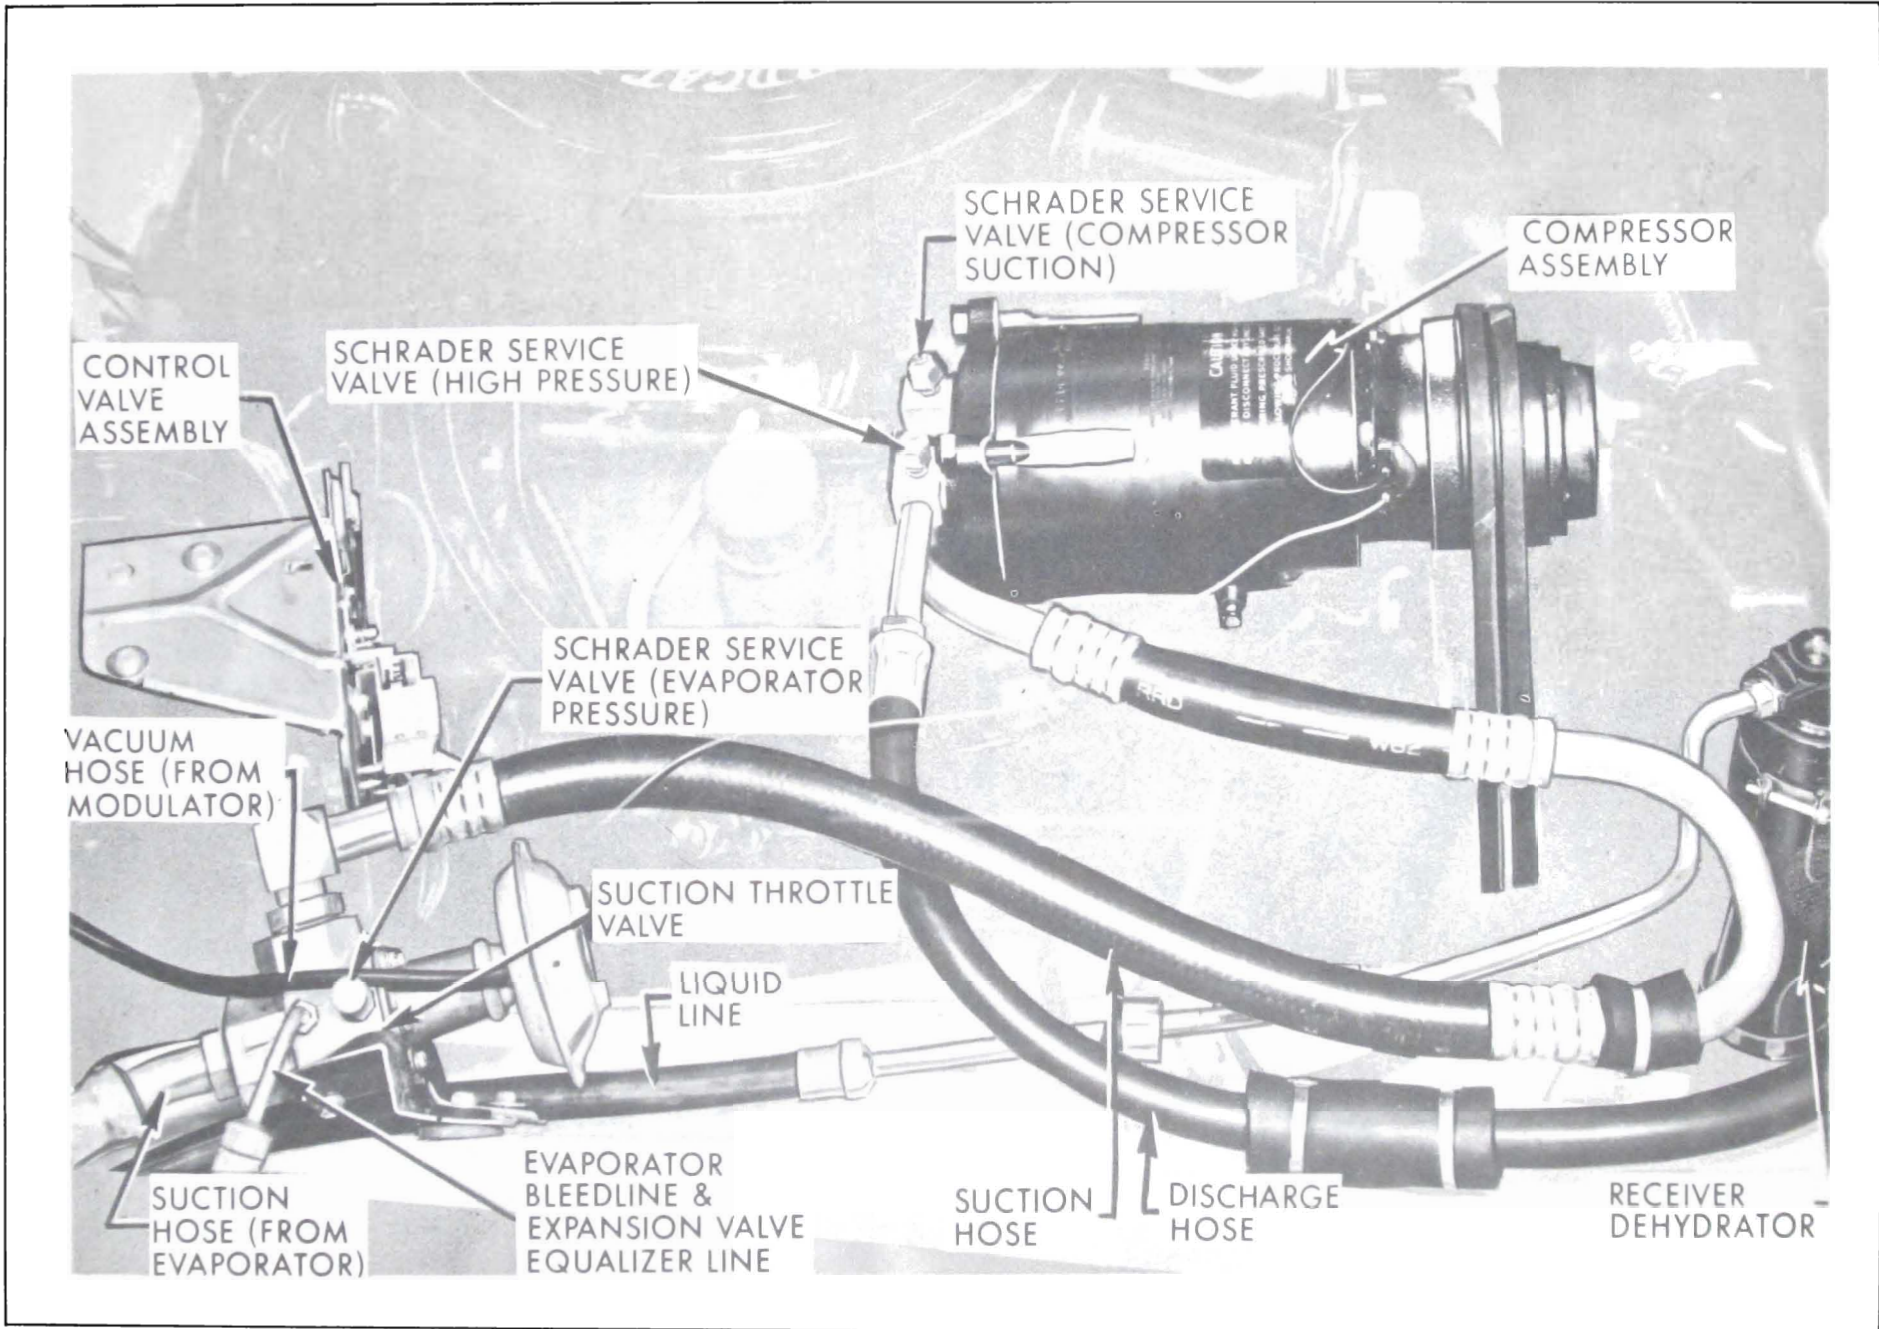

Figure 11-33—Air Conditioner Installation
The Air Conditioner is dash mounted with all the components located in or ahead of the dash. The compressor is mounted over the right cylinder head and is connected to the evaporator and condenser by flexible synthetic rubber hoses. The condenser is mounted forward of the radiator core and the receiver-dehydrator vertically to the right of the condenser. The evaporator is located at the extreme right end of the dash panel beneath the fender. The blower and air valve housing is on the dash panel to the rear of the right cylinder head. See Figure 11-33.
2. Schrader Service Valves. Three Schrader valves are used on the air conditioner system as shown in Figure 11-33. The one on the compressor discharge line is used for all service operations. The low pressure valves must be used as follows:
The STV inlet is connected to the evaporator outlet and its inlet is connected to the compressor suction port. See Figure 11-33.